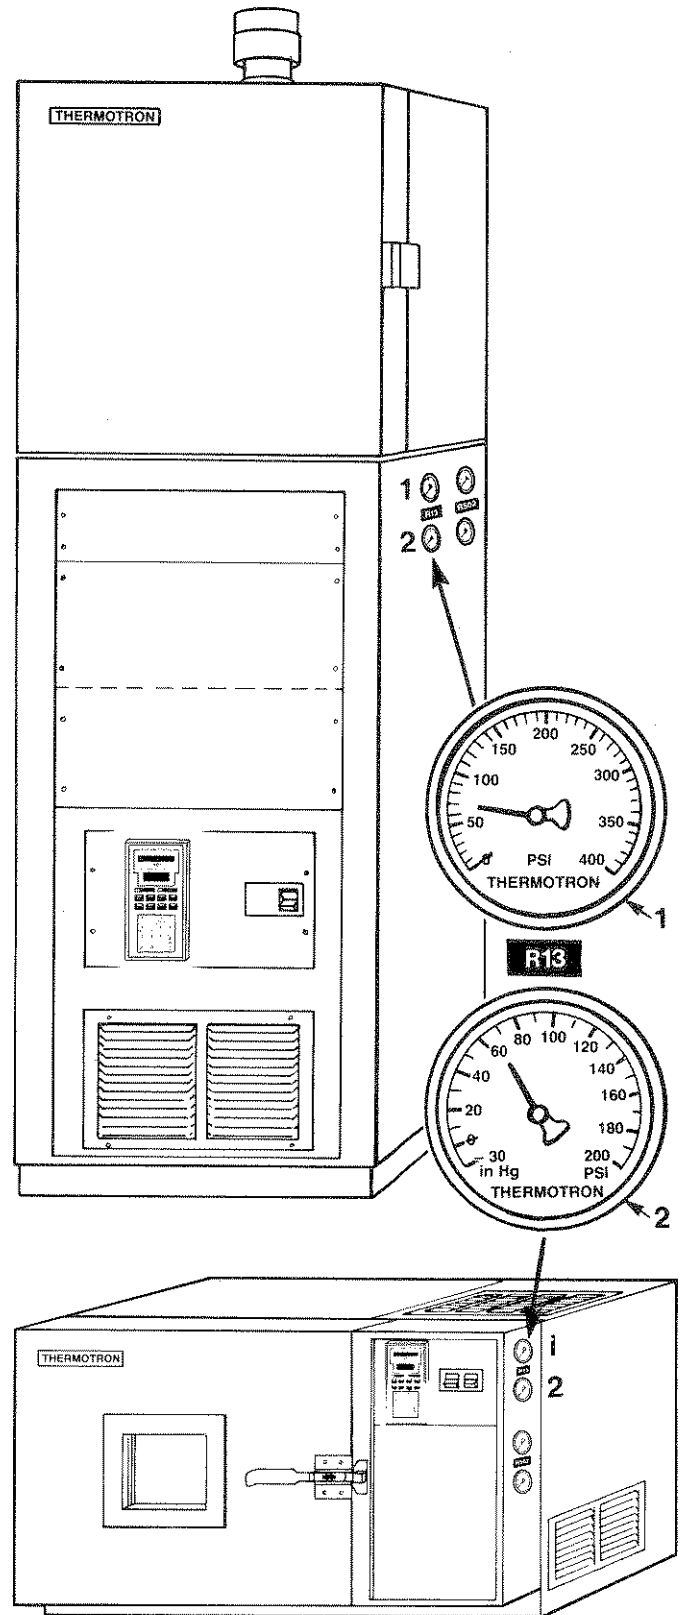

FIGURE C5
- a. The R-13 refrigeration gauges (1 and 2) must have equal readings. See Figure C5.
3. Read the standby pressure on the R-13 discharge gauge (1).